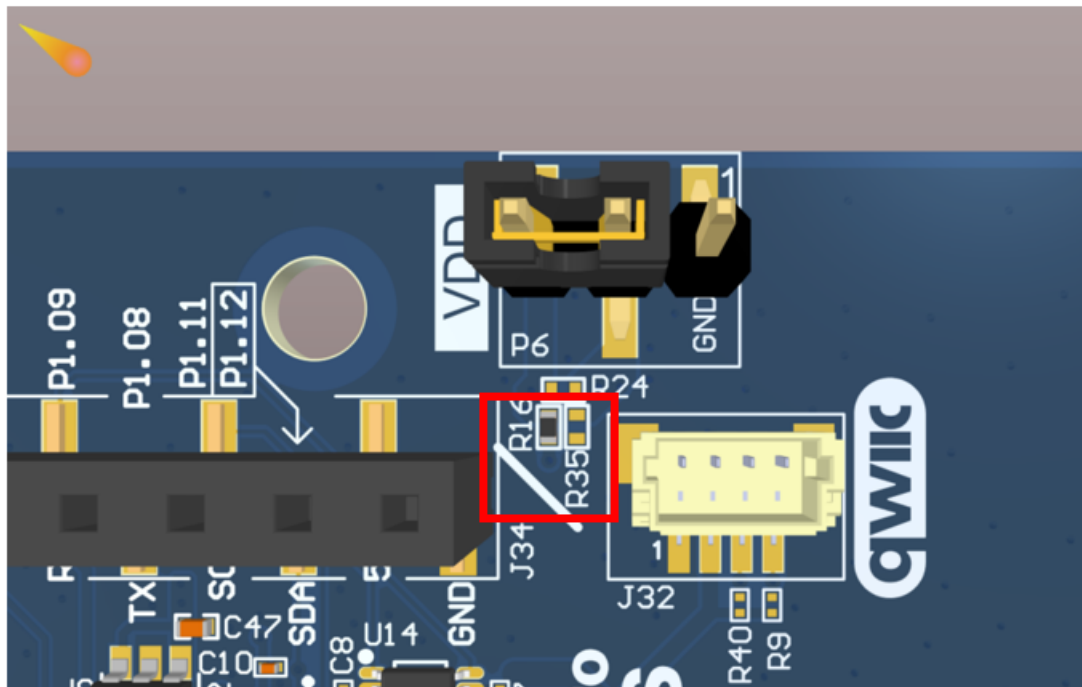

Figure 3: PCB location of these two rework parts for synchronizing the IO voltage of nRF5340 and BL54L15 μ
- VDD_nRF pin can also be powered from external power supply by using P6 header. However, in order to synchronize IO voltage between nRF5340 debug chip (U2) and BL54L15u, please depopulate R16 and fit R35 as 0 ohm. Figure 3 shows the PCB location of these two rework parts.